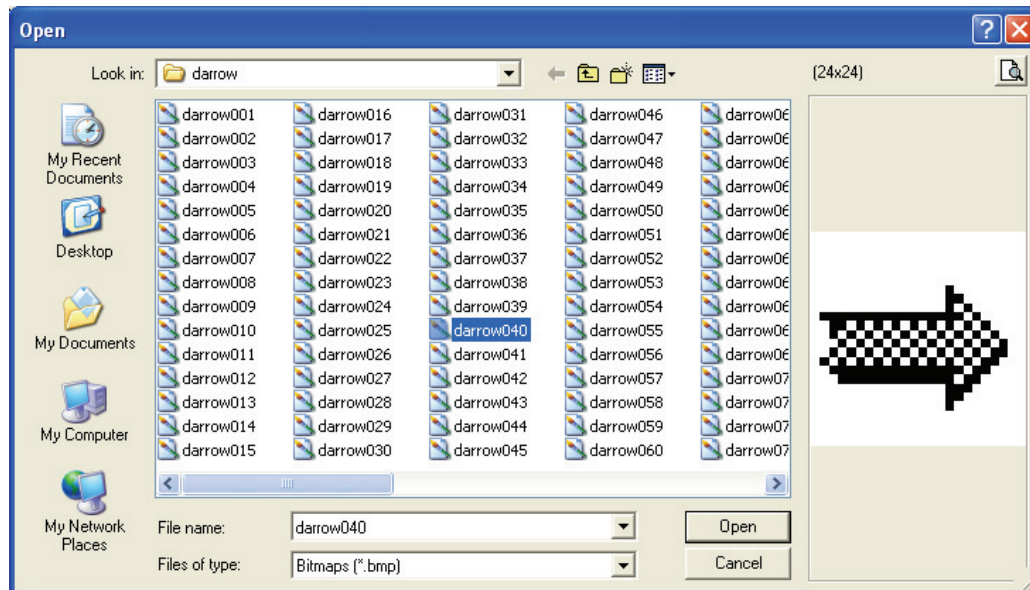

Figure 3-3
Step 3. Double click the square  and the following Open dialog box (Figure 3-3) will display. It is used to select and import desired picture (the picture must be a BMP file) for displaying in the screen area.